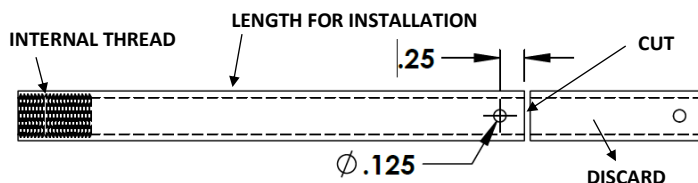

Fig.1
1. CUT STEM TO LENGTH (OPTIONAL) Fig.1